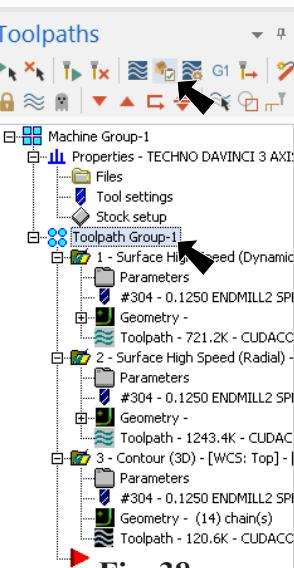

Fig. 38
Step 1. Click **Toolpath Group-1** in the Toolpaths Manager to select all three toolpaths, Fig. 38.
Step 2. Click **Verify** in the Toolpaths Manager, Fig. 38.